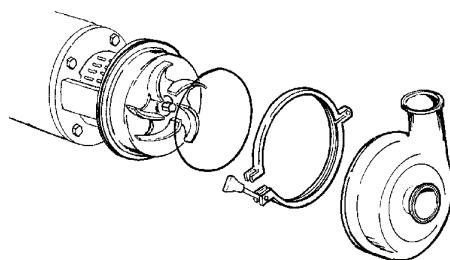

Figure 53 - Remove Casing Clamp, Casing and o-ring
2. Remove the casing clamp, casing and o-ring from the housing flange. See Figure 53.